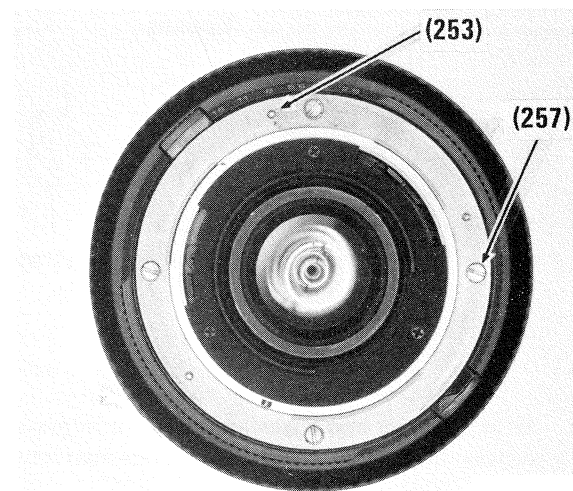

FIG. 2-21
- a) Remove four screws (257); lift off mount (253). Fig. 2-21.